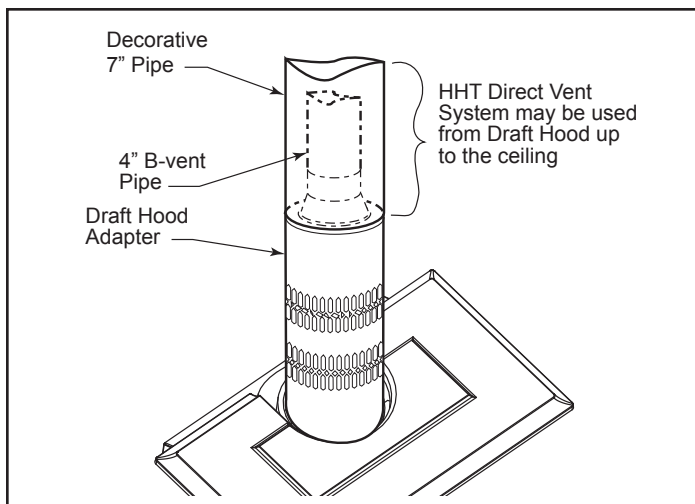

Figure 38 - Decorative 7" pipe may be fitted around the B-vent pipe.
- Vertical installations up to 40' (12 m) in height. Up to a 10' (3 m) horizontal vent run can be installed within the vent system using a maximum of two 90° elbows. *Figure 38*
- A minimum of an 8' (2.5 m) vertical rise is required. (*Figure 38*)
- Two sets of 45° elbow offsets may be used within the vertical sections. From 0 to a maximum of 8' (2.5 m) of vent pipe can be used between elbows. *Figure 38*
- For the minimum height of the vent above the highest point of penetration through the roof refer to *Figure 38*.
The heater is approved for installation as a Natural Vent. Hearth and Home Technologies Direct Vent pipe could be used directly after the Draft Hood Adapter up to the ceiling, then B-vent pipe must be used. Do not mix types of B-vent pipe; use components from one maker or the other. Follow the vent component maker's instructions exactly. The heater will also accept standard or enameled 7" (150 mm) diameter pipe, around the Type B venting, for decorative purposes only. (Figure 38)